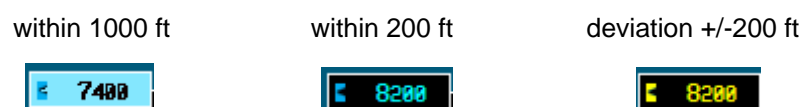

Figure 3.8
4. **altitude reference box** - Displays the reference altitude in feet (ASL). The reference altitude is set by the user (see below), and is the altitude used by the autopilot when the altitude mode is engaged (AP/ALT link). The reference altitude box also serves as a visual altitude alerting system when the autopilot is on and the altitude mode is engaged (Figure 3.8).
The default color scheme for the reference box is cyan colored numbers on a black background. When the aircraft altitude passes within 1000 feet of the reference altitude, the reference box flashes for 3 seconds and the color scheme changes to black numbers on a cyan background (Figure 3.8). When the aircraft is within 200 feet of the reference altitude, the scheme changes back to the default and flashes for 3 seconds. If the aircraft altitude deviates +/- 200 feet from the reference altitude, the reference box flashes black numbers on a yellow background for 3 seconds.